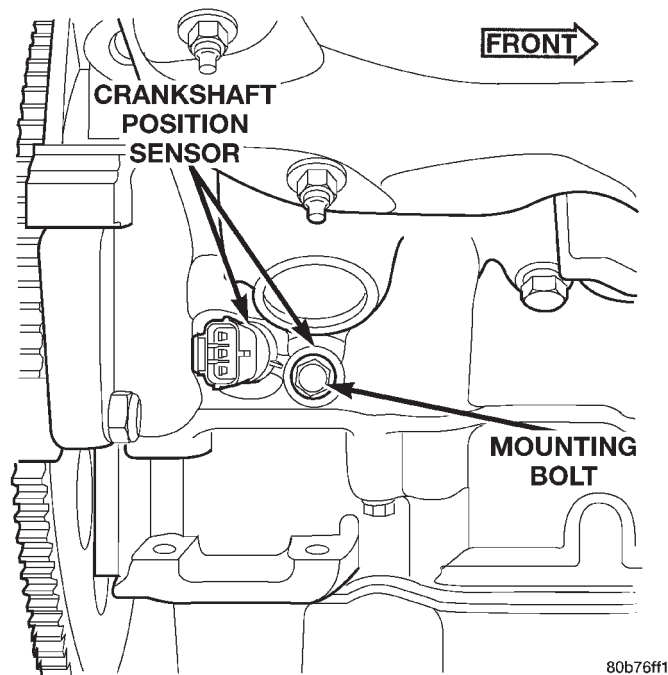

Fig. 31 CKP Sensor Removal/Installation—4.7L V-8 Engine
- (3) Remove CKP mounting bolt (Fig. 31).
- (4) Carefully pry sensor from cylinder block in a rocking action with two small screwdrivers.
- (5) Remove sensor from vehicle.
- (6) Check condition of sensor o-ring.